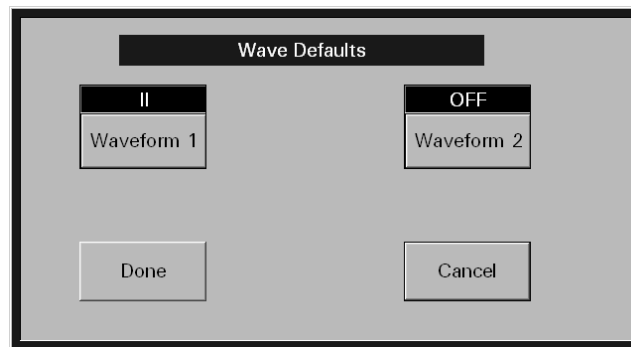

FIGURE 9-37 Wave Defaults Dialog Box
1. Select the **Wave Defaults** sidebar button in the **Unit Priorities** tab. The **Wave Defaults** dialog box (shown in FIGURE 9-37) is displayed.